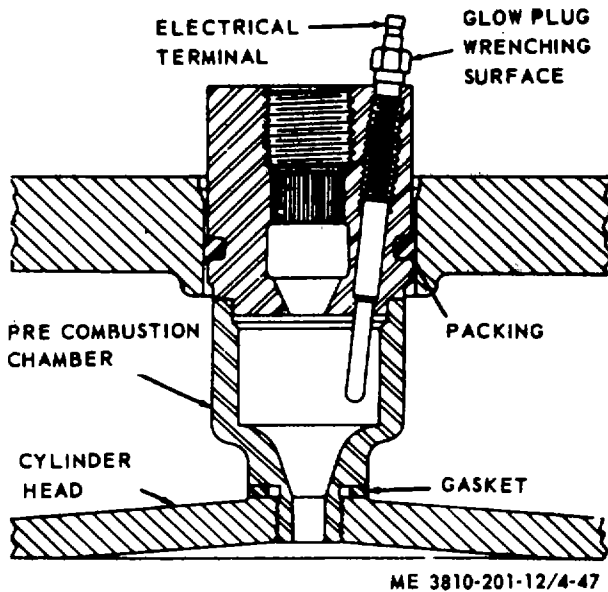

Figure 3-127. Glow plug, removal and installation
(1) Tag and disconnect electrical lead at glow plug from precombustion chamber. Remove
(2) Remove glow plug (fig. 3-127) by turning counterclockwise with wrench on wrenching surface until threads are disengaged then lift glow plug from precombustion chamber. Remove remaining plugs in a similar manner.
(1) Install glow plug (fig. 3-127) in precombustion chamber by turning clockwise until threads are seated finger tight.
(2) Use torque wrench on wrenching surface and tighten to between 10 and 12 ft-lbs.
(3) Connect electrical lead and remove tag.
(4) Install remaining glow plugs in a similar manner.